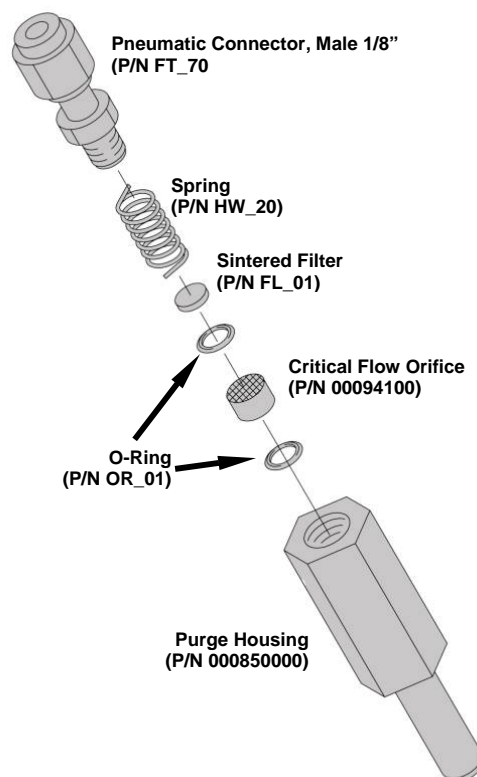

Figure 11-6: Critical Flow Restrictor Assembly Disassembly
4. Remove the fitting and the components as shown in the exploded view in Figure 11.6.